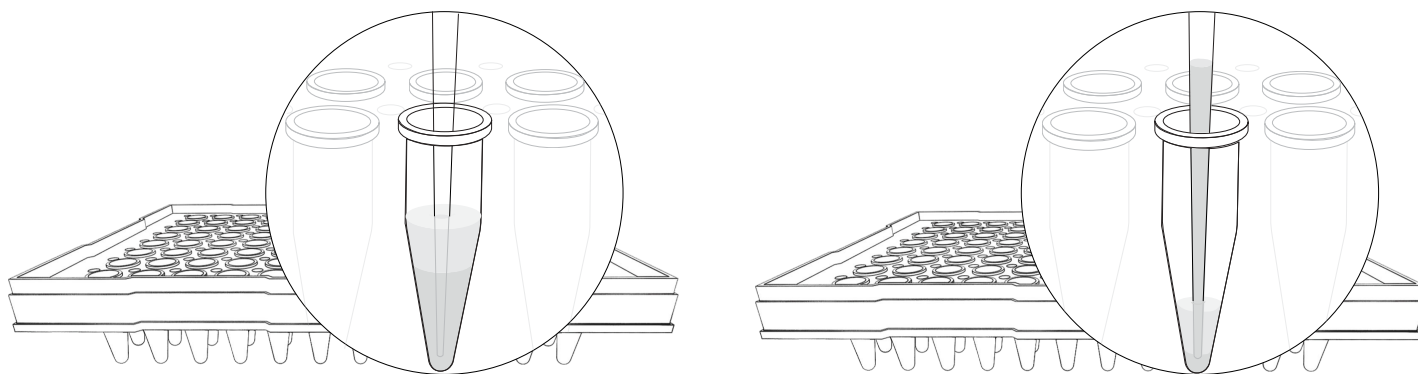

Figure 2 Remove aliquot.
- Set a 20- μL pipette to 15 μL , depress the plunger to the first stop, and insert the pipet tip below the interface between phases (Figure 2, left), then pipet the lower (aqueous) phase up and down to mix the sample.
- Aspirate 6–12 μL — depending on the number of primer pools and reaction size— of the lower phase (Figure 2, right), then transfer the sample to the appropriate well of a 96-well PCR plate.
- Aspirate 15 μL of the lower phase (Figure 2, right), then transfer the sample to the appropriate well of the IonCode™ 96-well PCR plate.